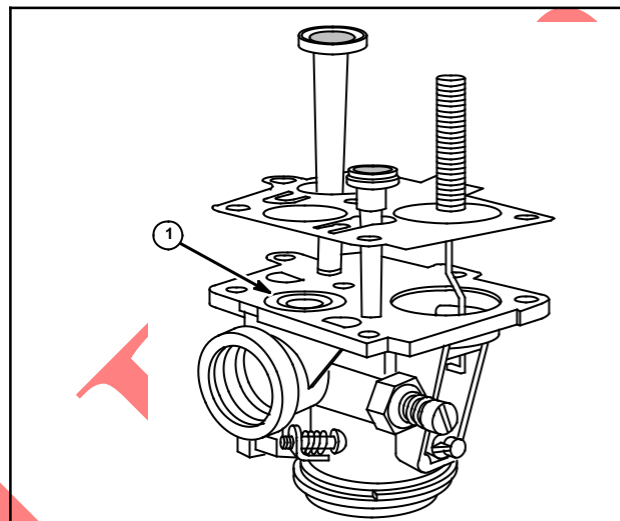

Fig. 43
2. Holding carburetor body upside down, place diaphragm on body while guiding choke link thru link hole for link. Be sure that pump spring and cap (1) are in fuel pump well, (Pulsa-Jet) Fig. 43.